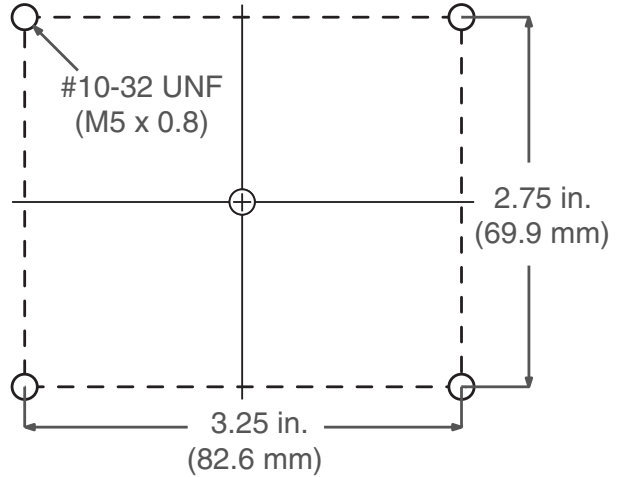

FIG. 37: CGM Mounting Holes
4. Drill the mounting holes using the mounting hole dimensions shown in FIG. 37.